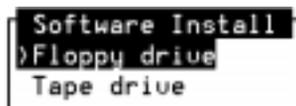

Figure 8-2. Software Install Menu
1. Start at the Software Install menu (Figure 8-2 on page 8-6).
- If you are installing additional languages, select from the Software Install menu (Figure 8-2 on page 8-6)
The system displays the Software Install menu (Figure 8-2 on page 8-6).